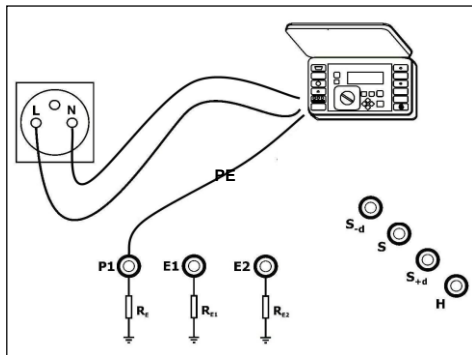

Fig. 12. Connection of the meter
- connect meter of the short circuit loop impedance in accordance with Figure 12,